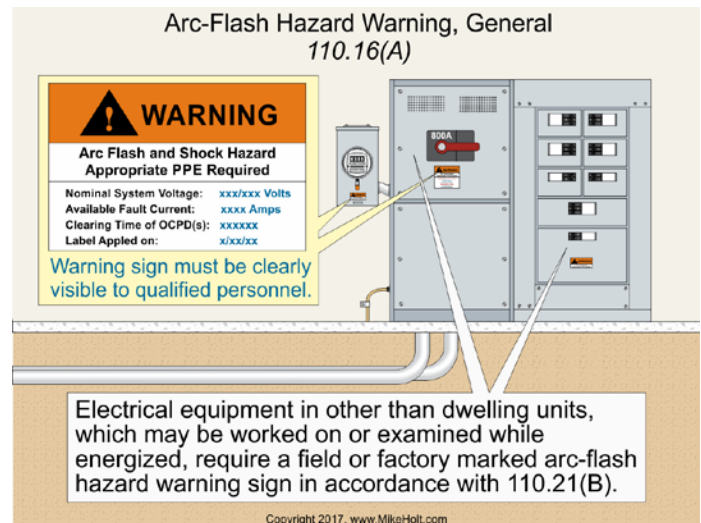

Figure 110-23
(A) Arc-Flash Hazard Warning Label. Switchboards, switchgear, panelboards, industrial control panels, meter socket enclosures, and motor control centers in other than dwelling units must be marked to warn qualified persons of the danger associated with an arc flash from short circuits or ground faults. The arc-flash hazard warning marking must be permanently affixed, have sufficient durability to withstand the environment involved [110.21(B)], and be clearly visible to qualified persons before they examine, adjust, service, or perform maintenance on the equipment. Figure 110-23